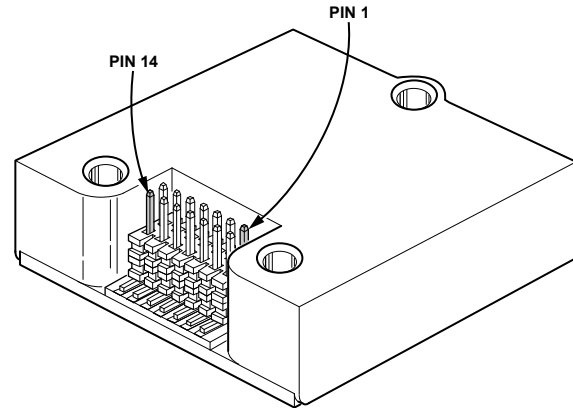

Figure 7. Pin Assignments, Package Level View
1. THIS REPRESENTS THE PIN ASSIGNMENTS WHEN LOOKING DOWN AT THE CONNECTOR. SEE FIGURE 7.